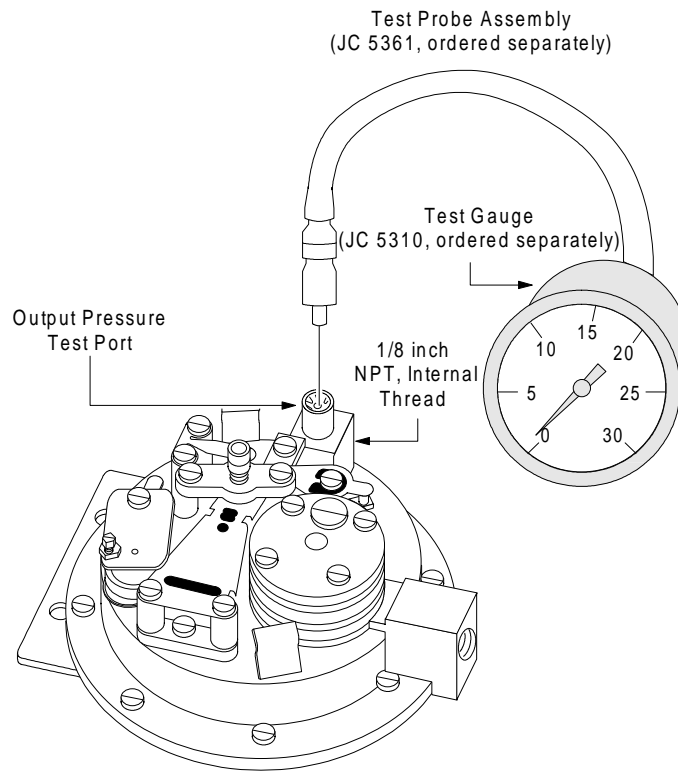

Figure 14: Test Gauge
2. Insert the test gauge (JC 5310, ordered separately) and the probe assembly (JC 5361, ordered separately) into the test port (as illustrated in Figure 14).